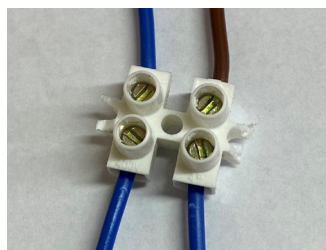

fig.5
**Neutral Wiring (with safety brake)** - (1) connect inside case neutral wire power (blue) to blue wire safety brake, (2) connect brown wire safety brake to neutral wire motor (blue) (fig.5).
- 8** Neutral Wiring (with safety brake) - (1) connect inside case neutral wire power (blue) to blue wire safety brake, (2) connect brown wire safety brake to neutral wire motor (blue) (**fig.5**).